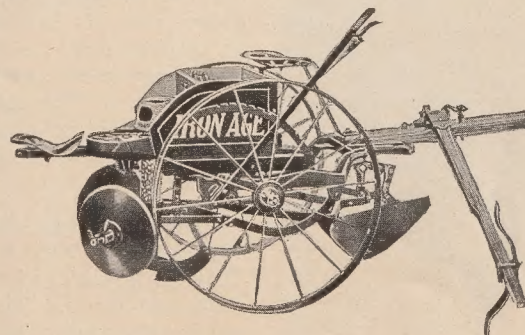

Fig. 294
- No. 2—Fig. 294, without distributor, with shield plow - 68.00